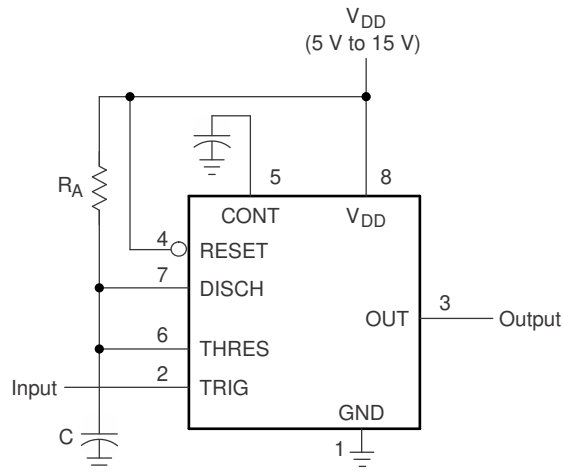
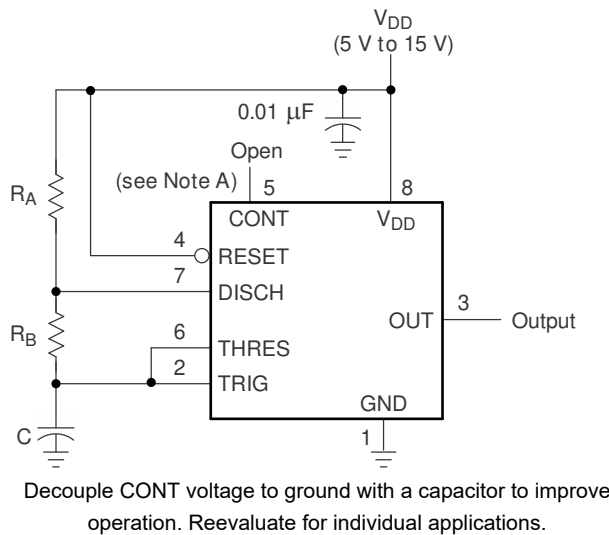
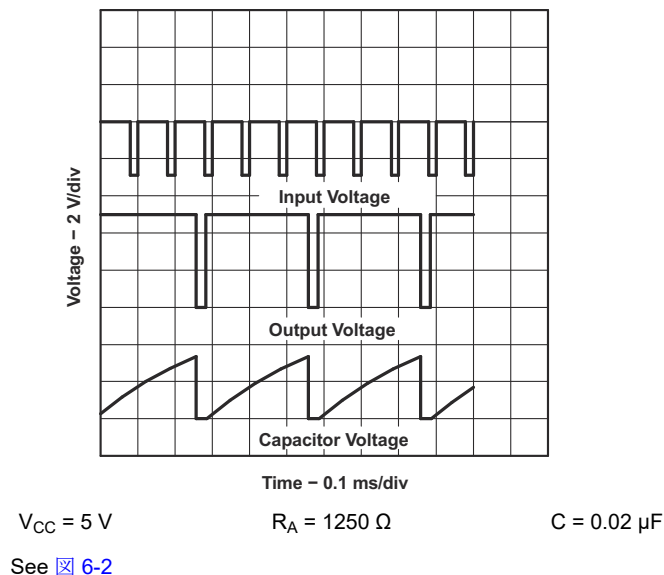

図 6-2. Circuit for Monostable Operation
Figure 6-5. Circuit for Astable Operation
図 6-9. Divide-by-Three Circuit Waveforms
(1) R_A , R_B , and C_T are as defined in 図 6-5.
For monostable operation, 图 6-2 shows how any of these timers can be connected. If the output is low, application of a negative-going pulse to the trigger (TRIG) sets the internal latch; the output goes high, and discharge pin (DISCH) becomes open drain. Capacitor C then is charged through R_A until the voltage across the capacitor reaches the threshold voltage of the threshold (THRES) input. If TRIG has returned to a high level, the output of the threshold comparator resets the internal latch, the output goes low, the discharge pin goes low, which quickly discharges capacitor C.
As shown in Figure 6-5, adding a second resistor, R_B , to the circuit of Figure 6-2 and connecting the trigger input to the threshold input causes the timer to self-trigger and run as a multivibrator. The capacitor C charges through R_A and R_B and then discharges through R_B only. Therefore, the duty cycle is controlled by the values of R_A and R_B .
By adjusting the length of the timing cycle, the basic circuit of 図 6-2 can be made to operate as a frequency divider. 図 6-9 shows a divide-by-three circuit that makes use of the fact that retriggering cannot occur during the timing cycle.